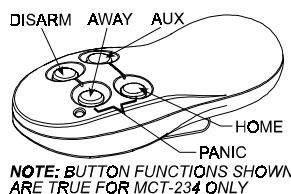

Figure 21. MCT-134 / 104
C. MCT-134 / MCT-104 (Fig. 21): 4-button hand-held units. MCT-134 (CodeSecure) can replace the MCT-234 keyfob. MCT-104 (PowerCode) can perform emergency and non-alarm functions. Both units look alike.